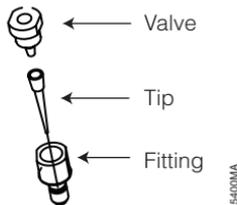

Figure 15. Injector Tip Assembly.
2. Twist the tip fitting counterclockwise to release the tip assembly from the tubing (Figure 15).
3. Remove the injector tip assembly (Figure 15). Do not discard.